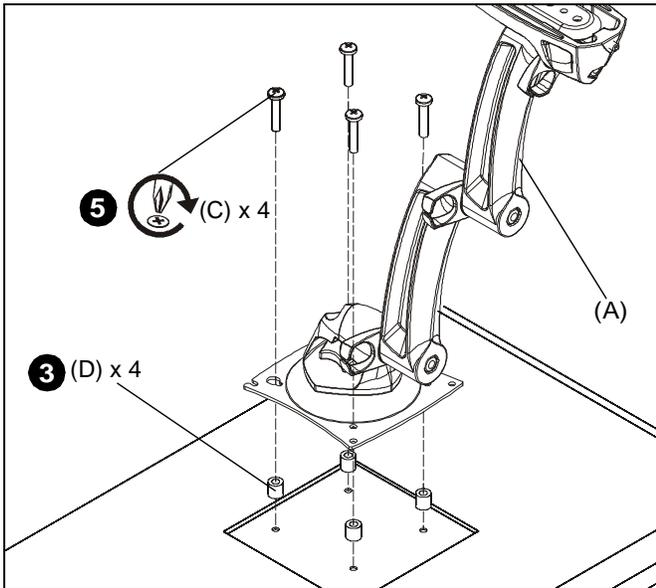

**Figure 11**
1. Ensure faceplate is able to swivel and tilt easily, yet still be tight enough to hold display in desired position. Adjust as required before proceeding. See "ADJUSTMENT" for detail. (See Figure 11)
2. Using Phillips screwdriver, carefully install two M4x14mm screws (B) into the *upper* mounting holes on the display. Thread screws completely into display, then back out 3 complete turns. (See Figure 11)
3. Pick up and align display so that screws (B) (installed on the back of the display in the previous step) fit into the mounting holes on the faceplate. Rotate the bracket as required. Lower the display firmly into place. (See Figure 11)
4. Using Phillips screwdriver, install two remaining M4x14mm Phillips screws (B) through the *lower* mounting holes in faceplate into the display. (See Figure 11)
5. Tighten all four screws (B). Do not overtighten!